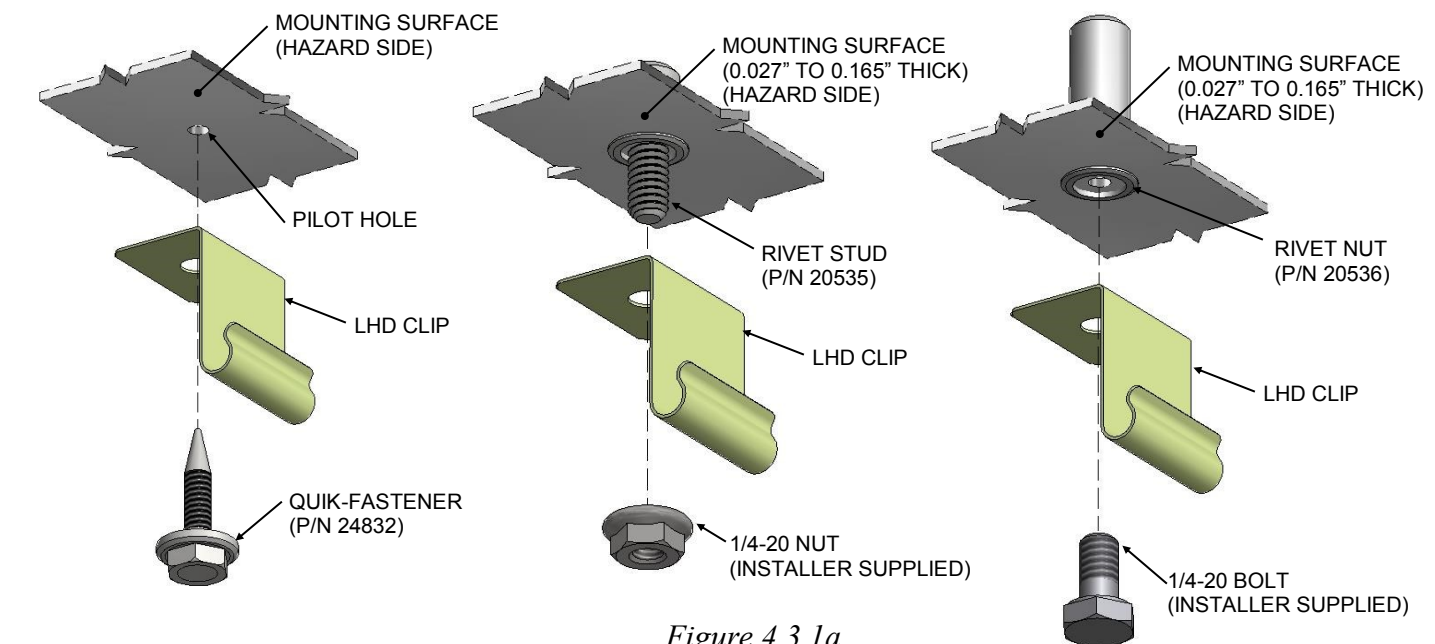

Figure 4.3.1a
1. Mount the LHD Support Clips to a suitable mounting surface using the 1/4" mounting hole. Installer supplied 1/4" fasteners may be used or AMEREX® supplied Quik-Fasteners (P/N 24832) or mounting rivets (P/N 20535 or P/N 20536) may be used (See Figure 4.3.1a). Installation instructions are provided with Quik-Fasteners and the Rivet Installation Tool (P/N 20552).